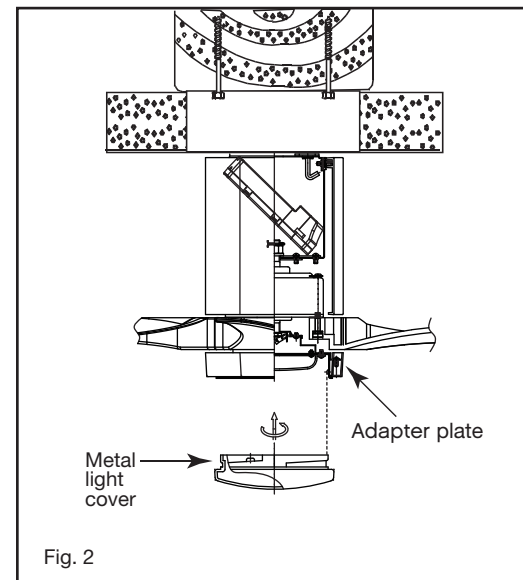

Fig. 2
Attach the wood screw and the flat washer to the ceiling joist as shown (do not fully tighten). Slide the cable clamp onto the safety cable from the fan. Loop the safety cable around the wood screw that was just attached to ceiling joist. Feed the end of the cable into the clamp and pull as much cable through as possible. Firmly tighten screw in the clamp. Cut off excess cable and firmly tighten the wood screw to ceiling joist. (Fig. 2)
2. Make wire connections from the fan to the receiver unit. For this step use the bundle of 5 wires on the receiver. (Fig. 2)
NOTE: The metal light cover included with your fan is an option to replace the glass for the light in the event that you prefer not to use the light feature of your fan. The metal light cover is not necessary for the light operation; it can be saved for later use if desired. (Fig. 2)
- 2 Seat the cradle A into the wall plate. (Fig. 2)
- Signal light (Fig. 2)